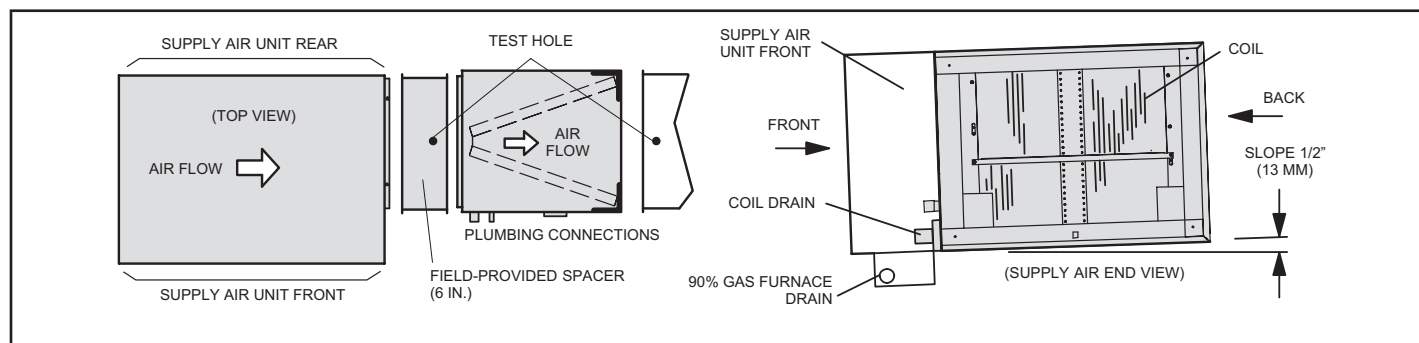

FIGURE 5. Right-Hand Air Discharge with Spacer
- 2 - Right-Hand Air Discharge with Field-Provided Spacer – The coil must have a 1/2" slope from the rear of the cabinet to the drain.** Position the coil in the left-to-right configuration on the service access side of the furnace. Insert a field-provided spacer between the furnace and the coil. Use field-provided screws to secure the coil casing, spacer and the furnace together. The spacer should be long enough to allow room for proper installation (approximately 6 inches minimum). See figure 5.